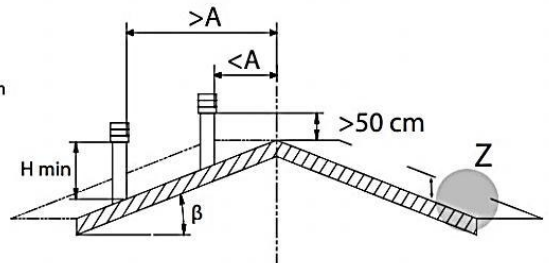

Figure 15
A – see *figure 15* and *chapter 4.5.4.*
The chimney must be **at least 0,5 meters remote above the roof ridge** (see *figure 15*).
- installed to enable proper dispersion and dilution of combustion products outside the reflux zone (backflow) because the counter pressure occurs here. Therefore, it is necessary to adhere to limitations listed in figure 15.,